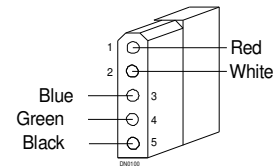

Figure 8
2. Locate loose connector in parts box in header and install wires into connector, see **Figure 8**.